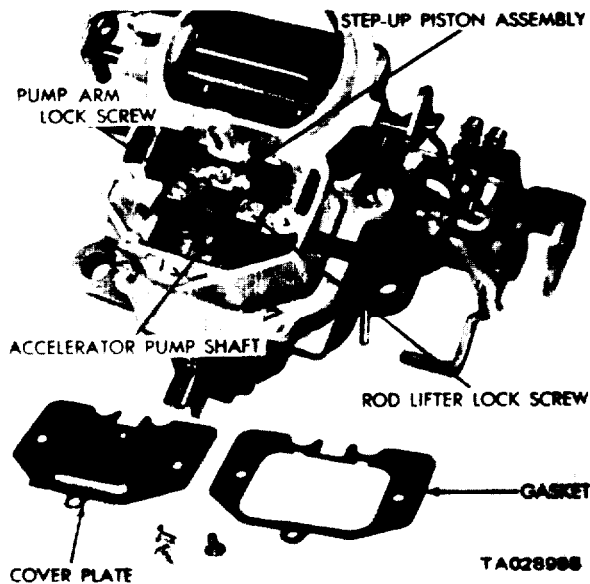

Figure 12-2. Removing the Step-Up Piston Cover Plate.
(4) Remove the step-up piston cover plate and gasket from the top of the air horn (figure 12-2).